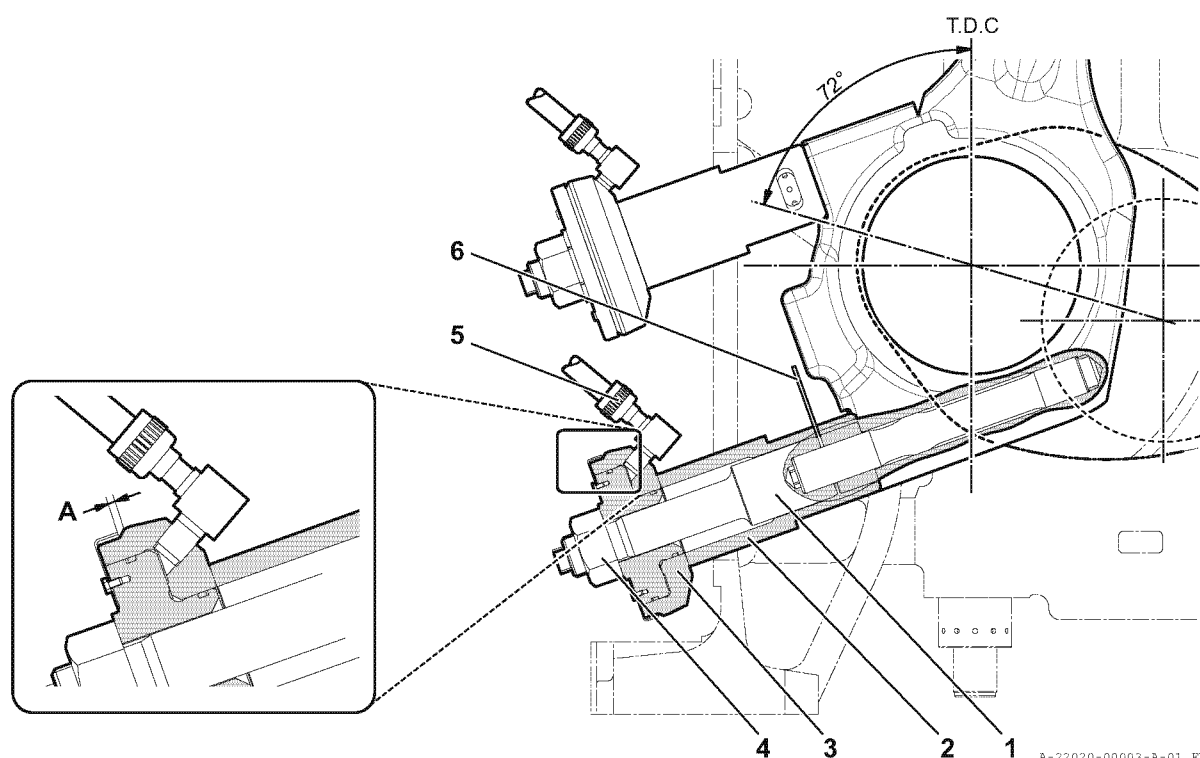

Fig.2 Operating the hydraulic jack
6. Make sure that the distance between the piston of the hydraulic jack and the end face of the body is less than 1.5 mm. (See A in Fig. 2.)